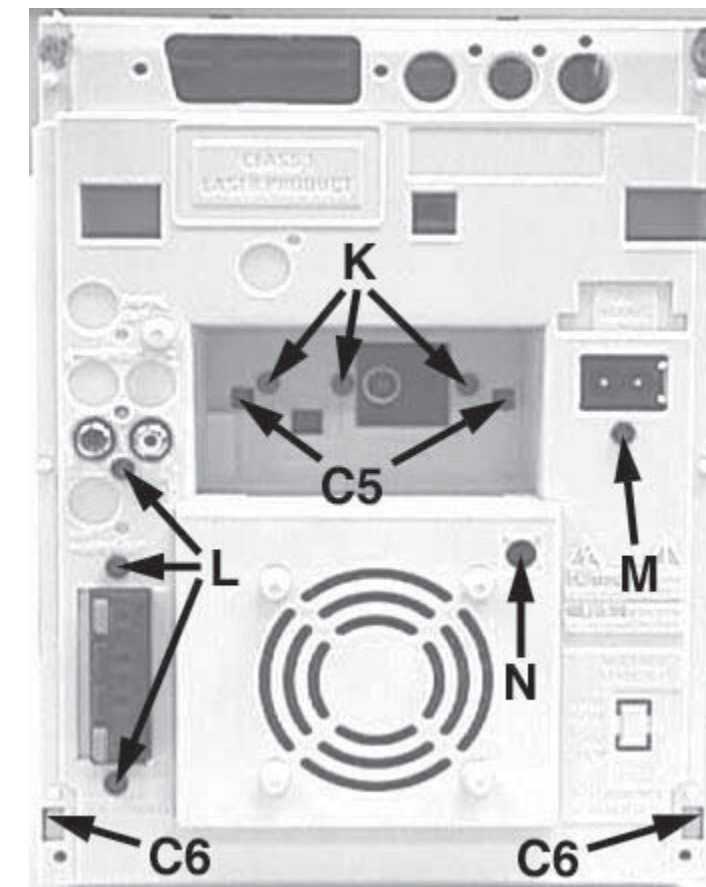

Figure 12
- 1) Loosen 3 screws K and 2 catches C5 (see Figure 12) to remove the Tuner Board assembly.
- 2) Loosen 3 screws L (see Figure 12) to free the Main Board.
- 3) Loosen 1 screw M (see Figure 12) to free the Mains Socket Board.
- 4) Loosen 1 screw N and 2 catches C6 (see Figure 12) to free the Panel Rear (pos 53) by sliding it out towards the rear.